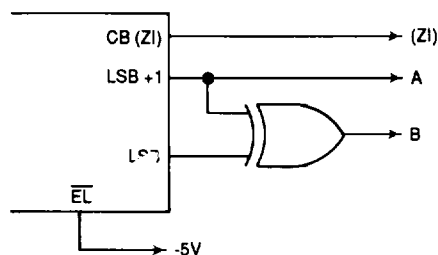

FIGURE 15A. INCREMENTAL ENCODER EMULATION
The RDC-19220 can be made to emulate incremental optical encoder output signals, where such an interface is desired. This is accomplished by tying \overline{EL} to -5 V, whereby CB becomes Zero Index (ZI) Logic 1 at all 0s, the LSB+1 becomes A, and the exclusive-or of the LSB and LSB+1 becomes B emulating A QUAD B signals as illustrated in FIGURE 15A. Also, the LSB byte is enabled.